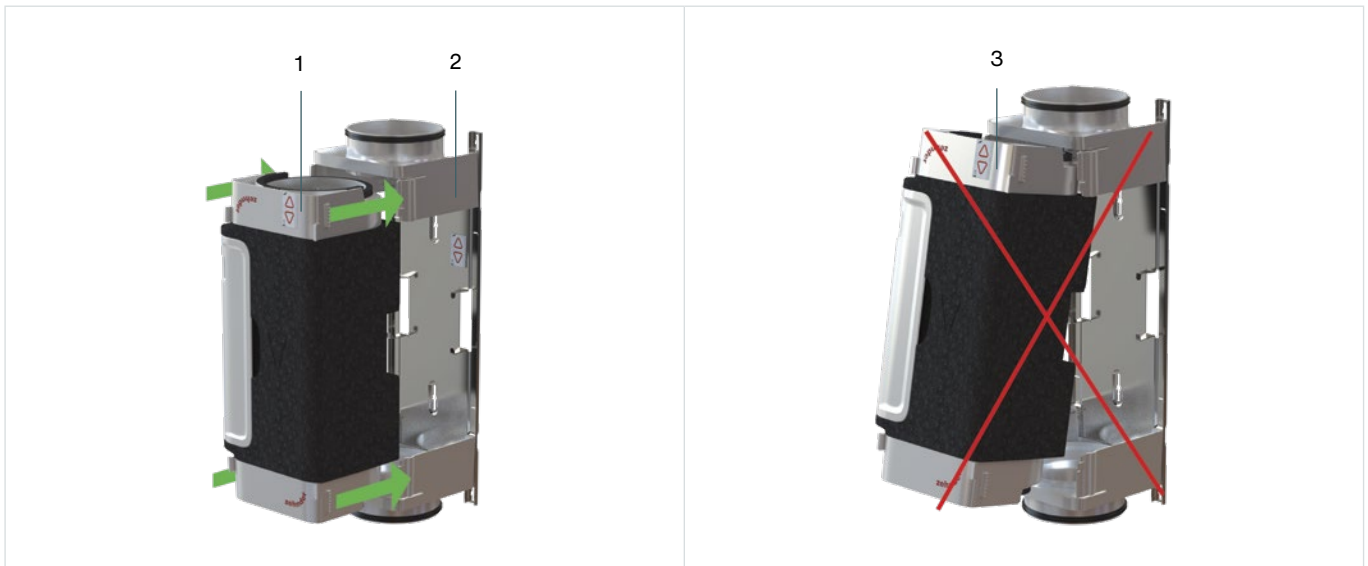

Fig. 5.3 - Placing VM in VM frame
3. Place the VM-interior (Fig. 5.3, pos. 1) straight (perpendicular) back into the VM frame (Fig. 5.3, pos. 2).
Placing the VM at an angle (Fig. 5.3, pos. 3) damages the VM. Always place the VM horizontally as shown in Fig. 5.3, pos. 1 and pos. 2.